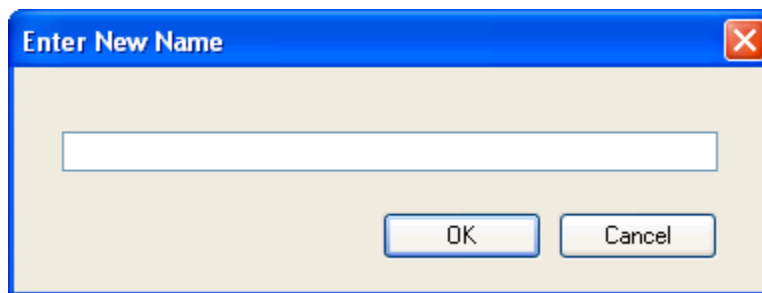

Figure 84 - Enter New Name Window
3. The **Enter New Name** window (Figure 84) appears.